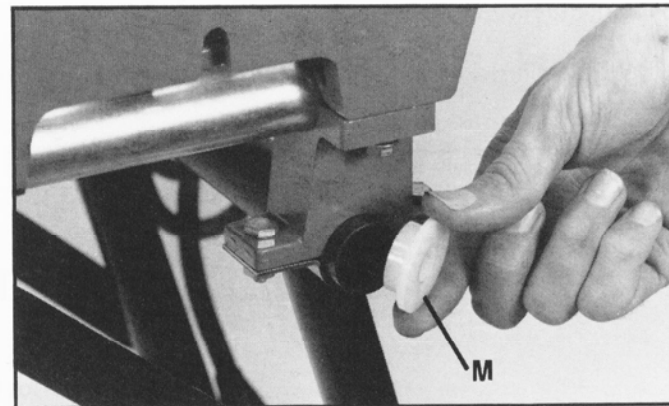

Fig. 8
1. Insert nylon bushings (M) into each end of rod located on right side of machine, as shown in Fig. 8.